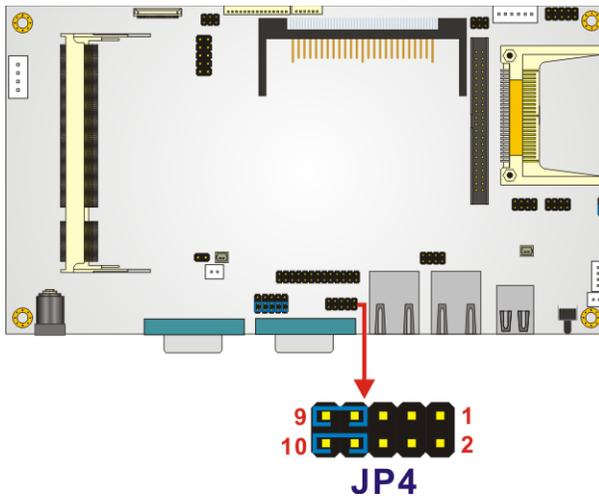

Figure 3-5: COM1 and COM2 Pin-9 Signal Select Jumper Location
- Jumper Location:** See Figure 3-5
The location of the COM1 and COM2 Pin-9 Signal Select jumper is shown in **Figure 3-5** below.